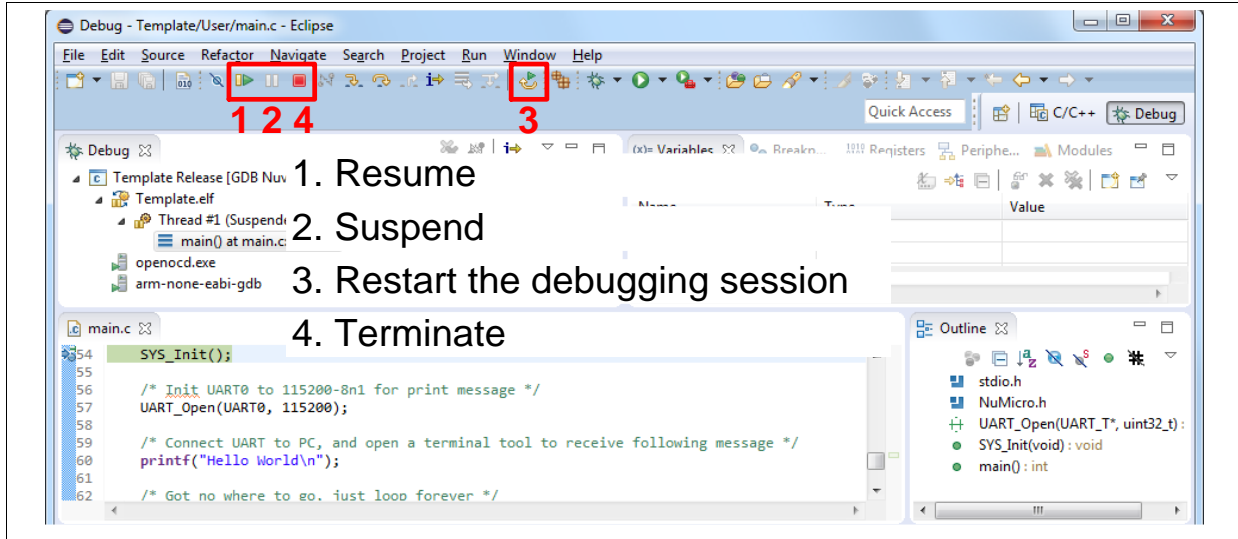
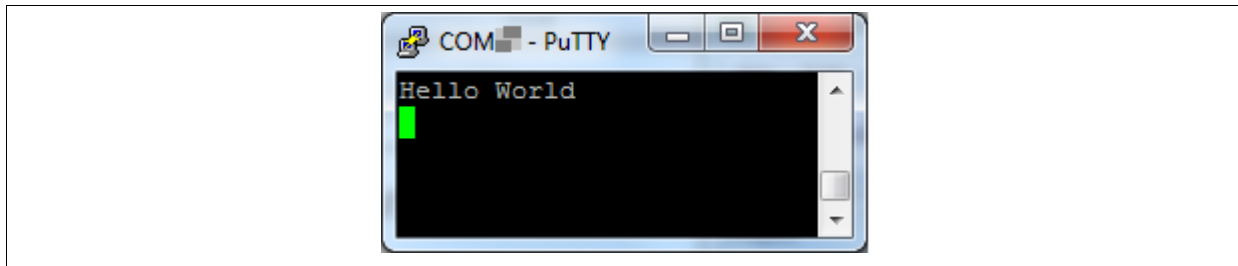

Figure 4-28 NuEclipse Debug Mode
Figure 4-29 Debug Message on Serial Port Terminal Windows
6. Figure 4-28 shows the debug mode under NuEclipse. Click “Resume” and the debug message will be printed out as shown in Figure 4-29. User can debug the project under debug mode by checking source code, assembly language, peripherals’ registers, and setting breakpoint, step run, value monitor, etc. For more information about how to use NuEclipse, please refer to the *NuEclipse User Manual*.